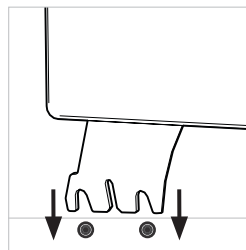

Fig. 3
- Fit the table saw guard assembly (Fig.3)